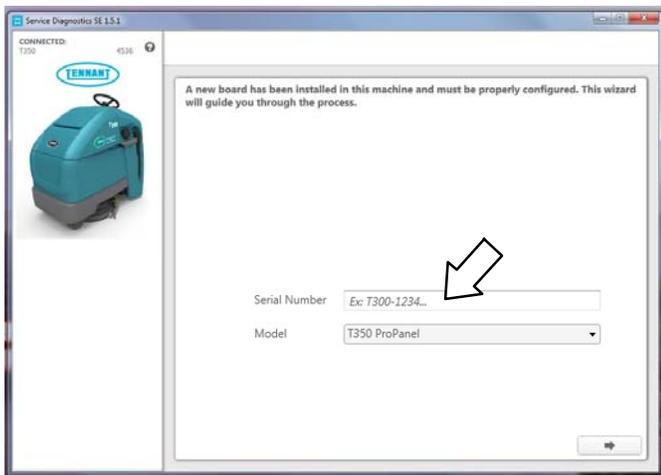

Fig. 6
6. The software will automatically detect that a new control board has been installed by displaying the following screen (Figure 6). Enter the serial number from the machine's serial number label. Then select the appropriate model from the drop-down menu. Press the arrow button to advance to next screen.